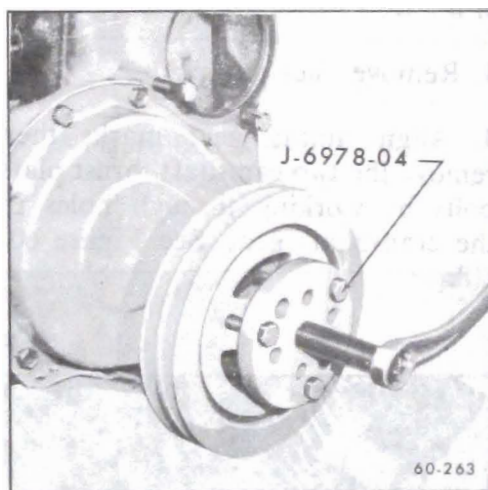

Figure 60-124 - Removing Torsional Damper
3. Install Tool J-6978 to torsional damper and turn puller screw to remove damper. See Figure 60-124.